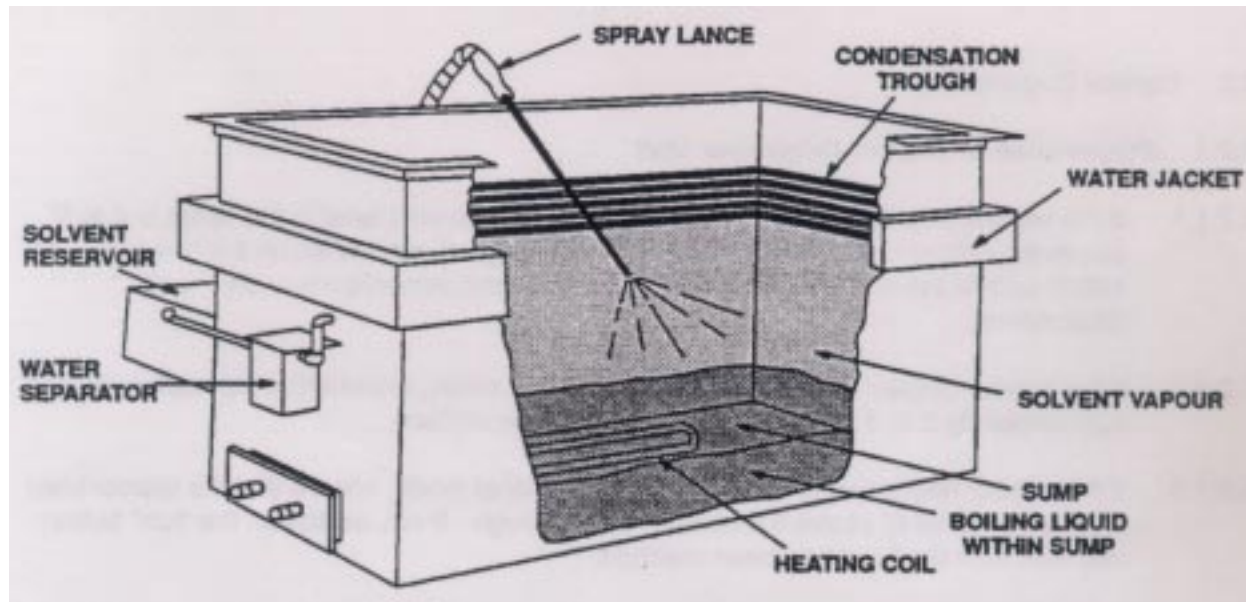

FIGURE 1 - VAPOUR DEGREASER UNIT
4.2.4 Vapour phase degreasing unit equipped with a spray lance. Do not use degreasing units that are not equipped with spray lances unless they are capable of processing parts, including those with internal bores, to the specified cleanliness requirements. Refer to Figure 1 for a general description of a typical vapour phase degreasing unit.